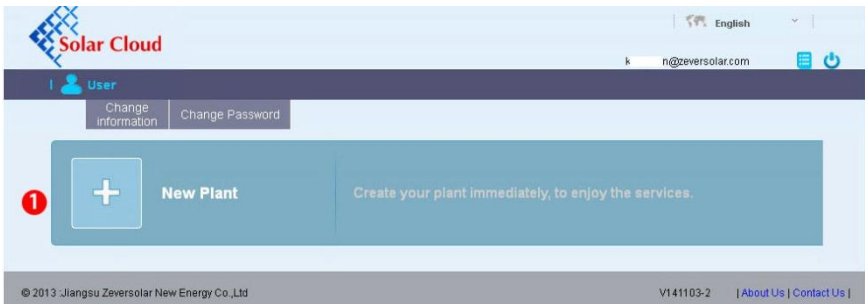

Fig. 7-2: Setting up a new PV plant
Step2: Input your user name and password in the area marked with a “1” in Fig. 7-1 to login to Solarcloud. If the login is successful, you will enter the web page with a PV plant list as shown in Fig. 7-2.
Step3: Click Position 1 in Fig. 7-2 to open the PV plant establishing page as shown in Fig. 7-3. Follow the prompts on the page to establish a PV plant.